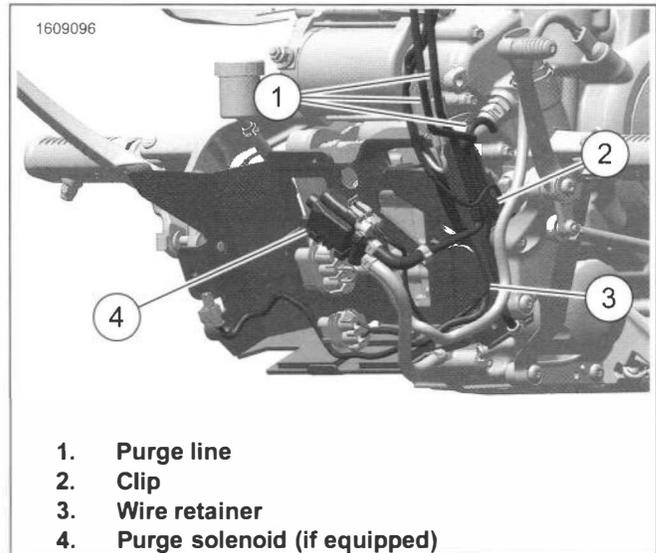
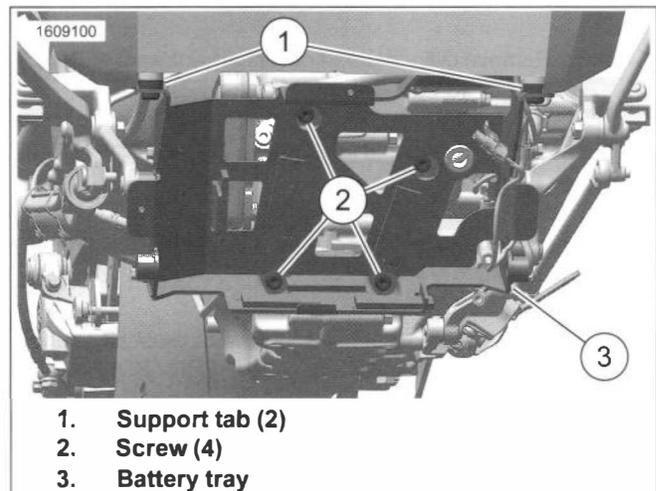

Figure 8-86. Battery Tray Mounting Clips
Figure 8-87. Battery Tray
1. See Figure 8-86. Remove EVAP lines (1) from clip (2) (if equipped).
2. Remove wire harnesses from retainer (3).
- a. See Figure 8-87. Remove screws (2).
- b. Remove battery tray (3).
- a. See Figure 8-87. Install battery tray (3) on support tabs (1).
- b. Install screws (2). Tighten.
2. Install wire harnesses from retainer (3).
3. See Figure 8-86. Attach EVAP lines (1) to clip (2) (if equipped).